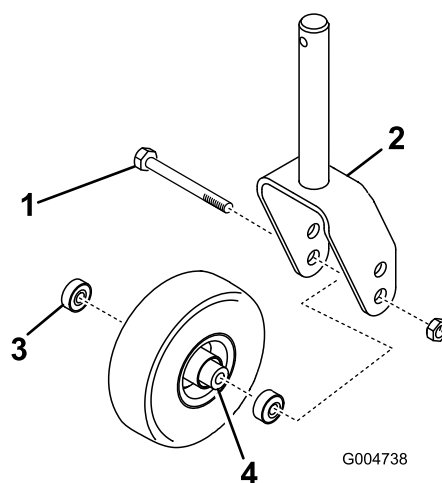

Figure 94
1. Remove the locknut from the bolt holding the castor wheel assembly between the castor fork (Figure 94) or the castor pivot arm. Grasp the castor wheel and slide the bolt out of the fork or pivot arm.
2. Remove the bearing from the wheel hub and allow the bearing spacer to fall out (Figure 94). Remove the bearing from the opposite side of the wheel hub.